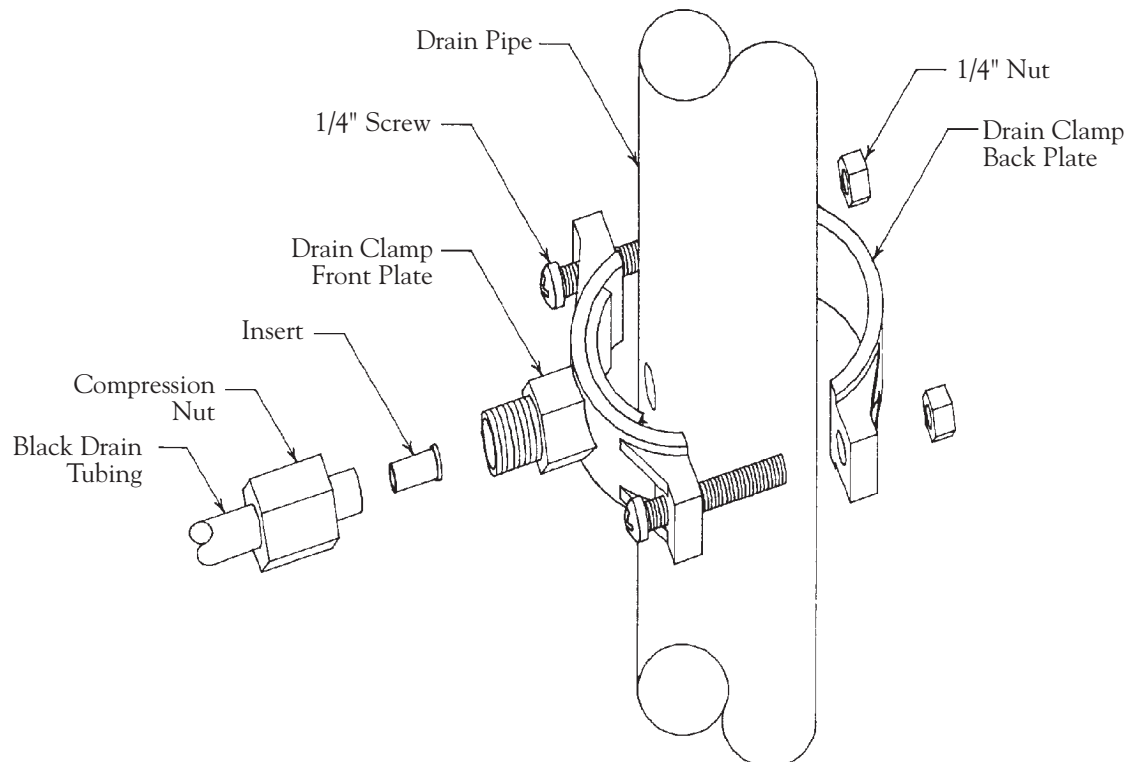

Figure 4
- Refer to Fig. 4, page 7. To connect the Drain Tubing, install the Compression Nut and the Insert.